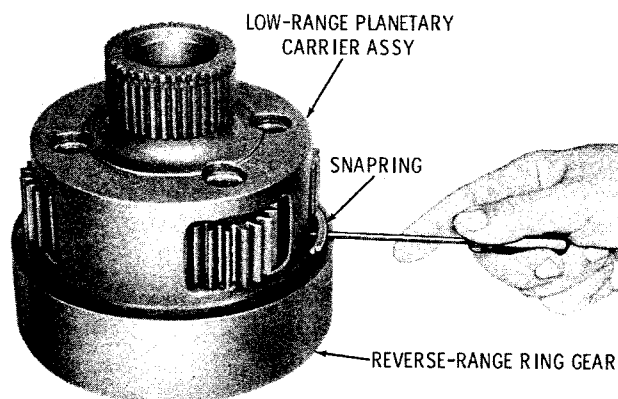

Fig. 5-28. Removing snapring from reverse-range ring gear
(7) Remove the snapping that retains the reverse-range ring gear on the low-range planetary carrier assembly (fig. 5-28). Refer to paragraph 6-20 for the low-range planetary carrier assembly rebuild instructions.